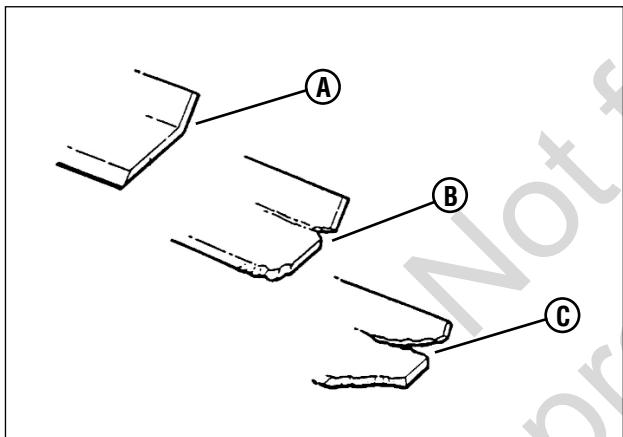

Figure 41: Mower blade wear limits
1. Inspect the blade frequently for signs of excessive wear or damage (Figure 41):
4. Inspect the condition of the blade (Figure 41).